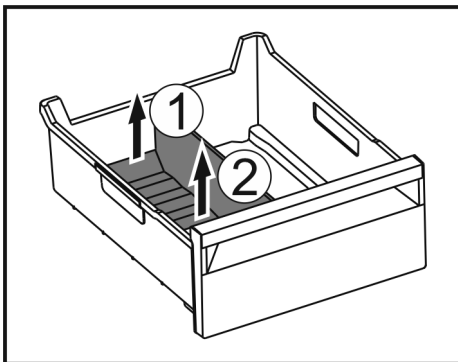

Fig. 113
- ▶ Lift the rear part of the ice compartment divider. Fig. 113 (1)
- ▶ Remove the ice compartment divider upwards. Fig. 113 (2)